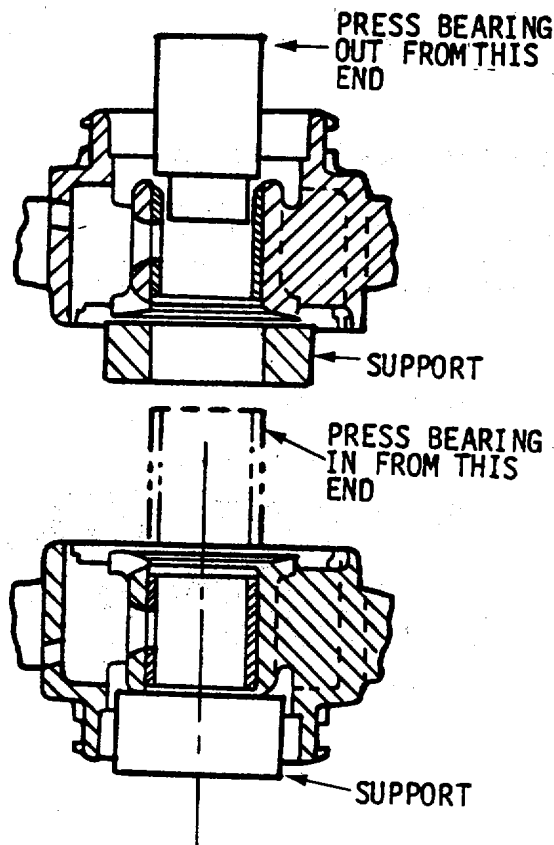

Fig. 6. Bearing replacement
4. On the outer side of the end shield (see Fig. 6), support the bearing-hub inside nose with a smooth collar which has a hole slightly larger than the outside diameter of the bearing.
1. Support the outer face of the hub (see Fig. 6) the same as in removal, except use a support plate without a hole.